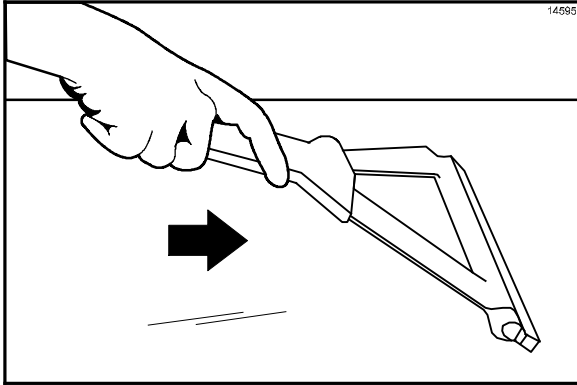

Figure 30
3. Push the residue into the grease trough. (See Figure 30.)